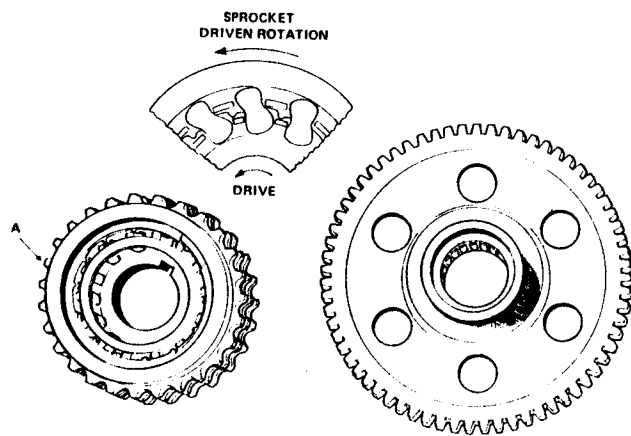

Fig. C48 Starter freewheel-sprag showing diagrammatic view into sprocket at 'A' with sprags leaning at correct angle for drive.
- 24 Assemble starter free-wheel sprag into sprocket recess. It is important to fit this the correct way to take the starter drive. See *illustration Fig. C48*.
- 27 The over-load backfire device can now be engaged into the spline of the large gear at the back of the cover and its outer gear meshed with the sprag-gear in the engine sprocket. The starter reduction gear train is now complete. (See *Fig. C48*).